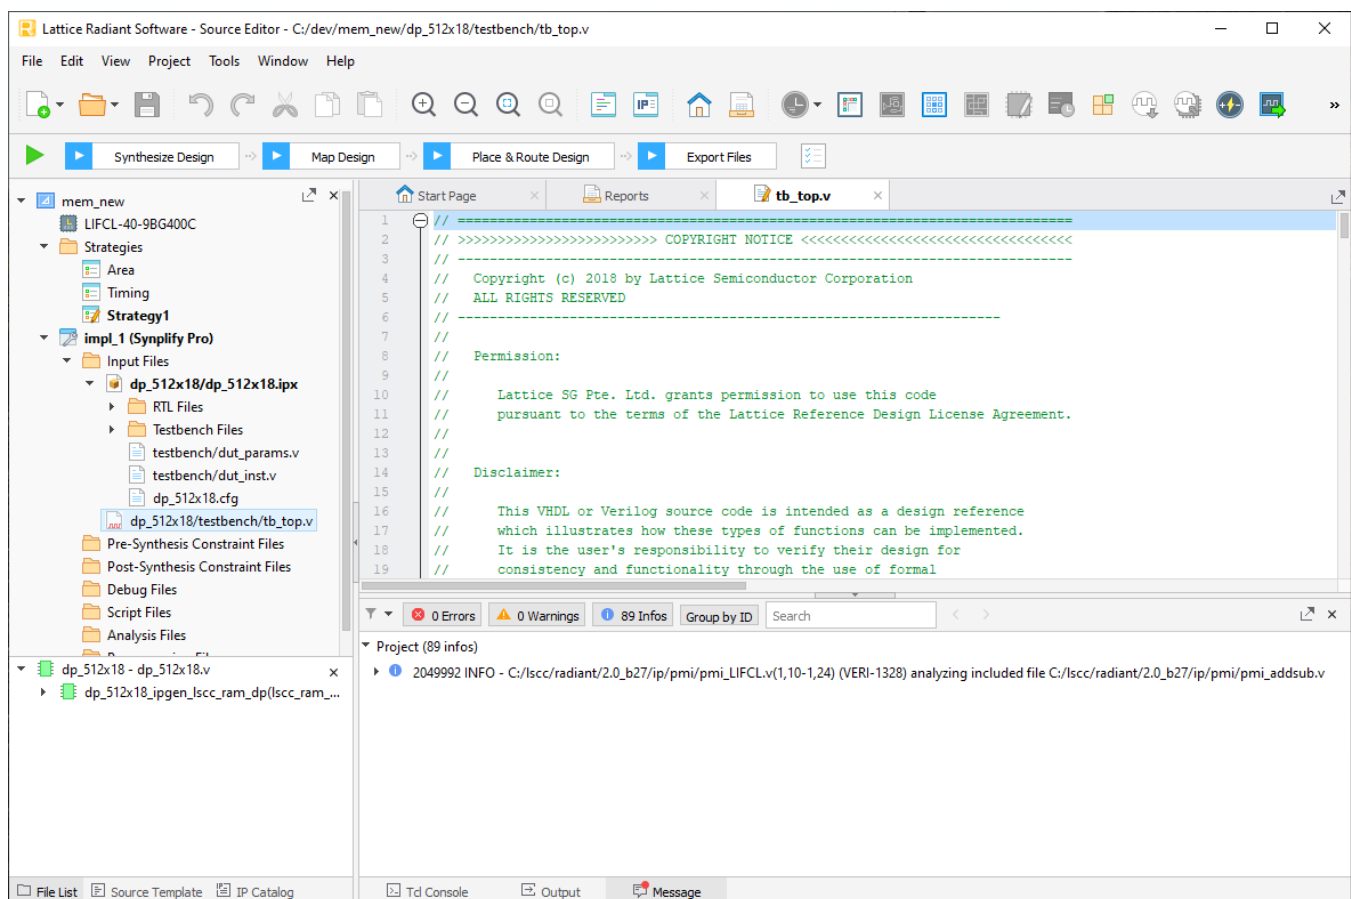

Figure 6.3. Top Level Testbench Instance in Project.
- Navigate to **<IP name>/testbench**. Select the **tb_top.v** file and click **Add**. This adds the top-level testbench to the project. After opening, the interface is shown in Figure 6.3.